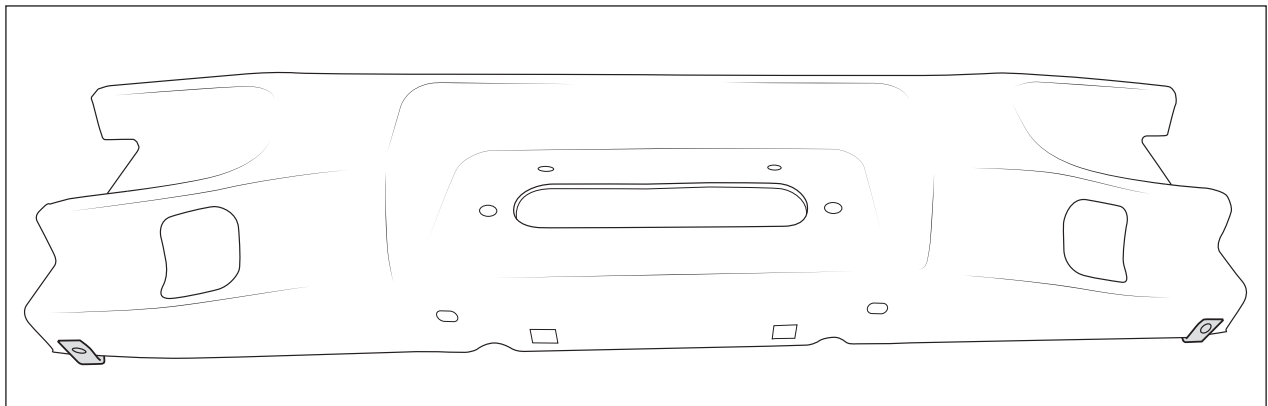
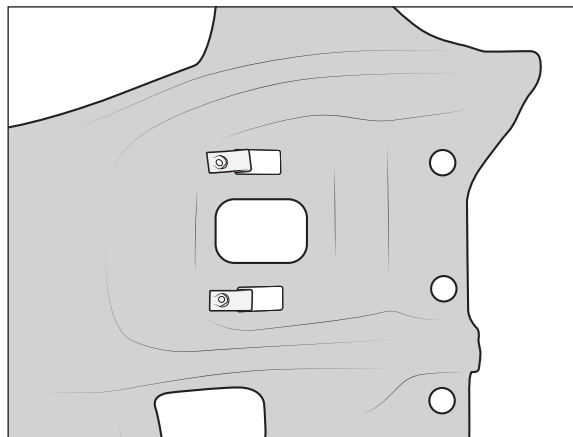

Figure 19
Figure 20
1. Install provided (large) M8 U-nuts to the bottom outboard holes of the bumper center (fig 19) and (small) #8 u-nuts to front face around fog light openings (fig 20).